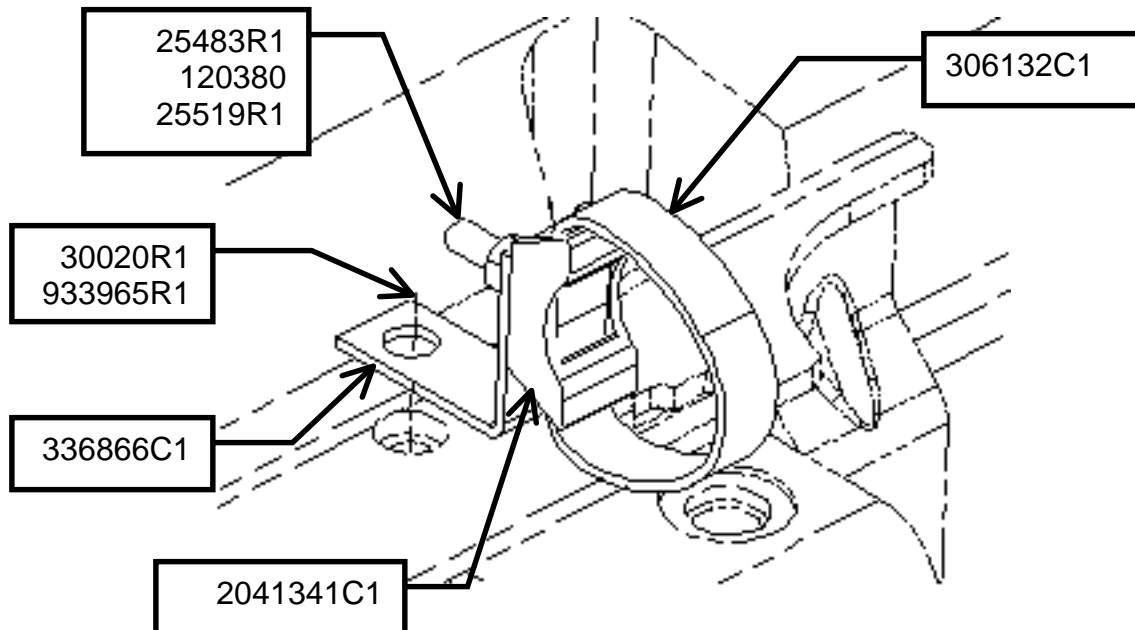

Figure 3
5. Install Recall Service Kit as per Figure 3 into holes where P-Clips were.